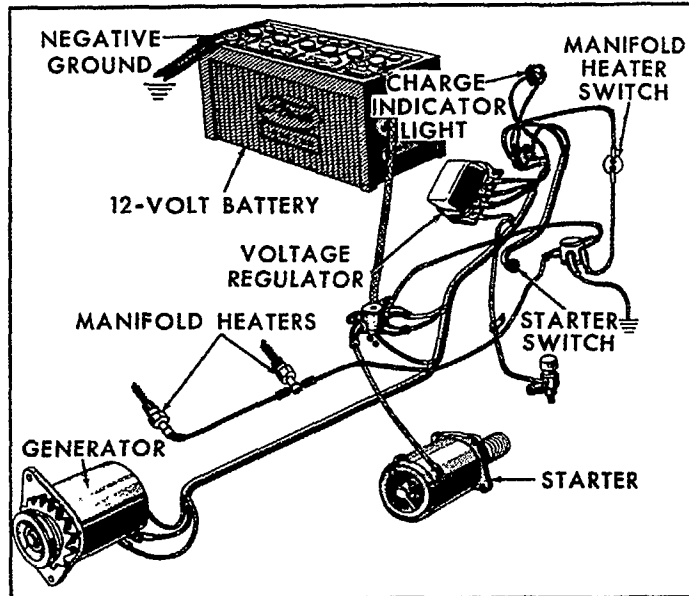

Figure 35—Manifold Heater Electrical Circuit
The heaters are actuated by a switch and the necessary wiring as shown in Figure 35.
2. Open the hood and disconnect the four wires from the manifold heater relay, Figure 35.